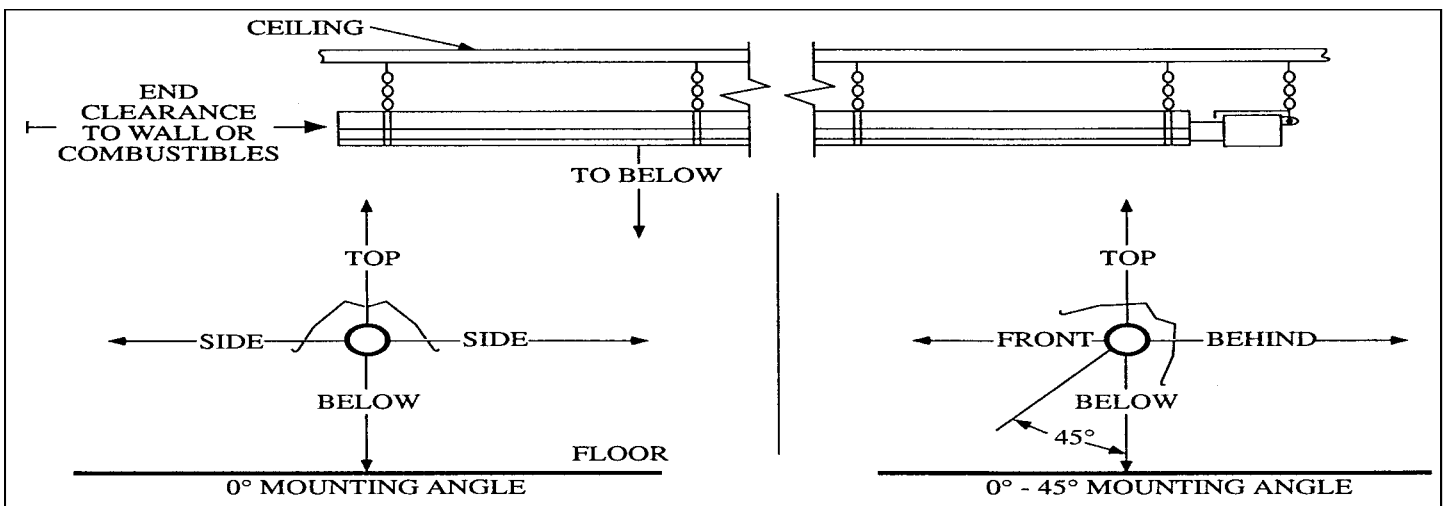

Figure 1: Clearance-to-Combustibles Diagram
12. The reflector may be mounted at 0° to 45° (Figure 1). Do not rotate control box assembly as it must be mounted level.